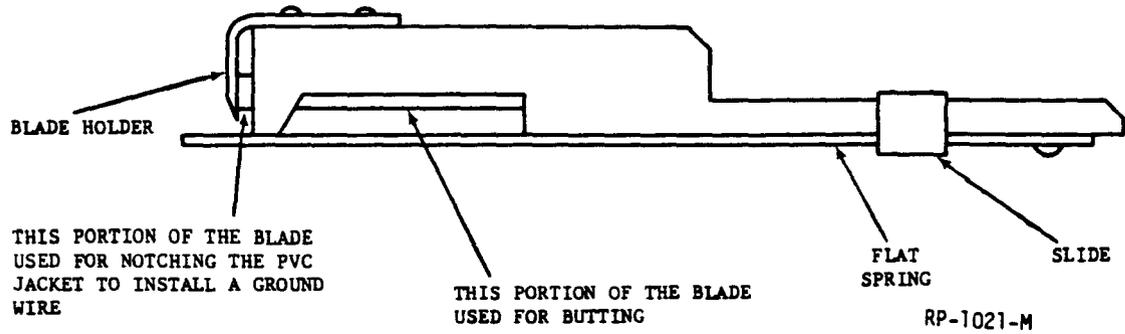

FIG. 1 R-4447 ABAM CABLE BUTTING TOOL
| 1.2 General Information Pertaining To Arrangement of Tools, Precautions, Verifications, Specifications and Drawings, and Figures | 4.1.1.1 Move the flat spring (see Figure 1) completely forward. |
- b. Insert the blade holder between the PVC jacket and the shield. (See Figure 1.)
A - Figure 1